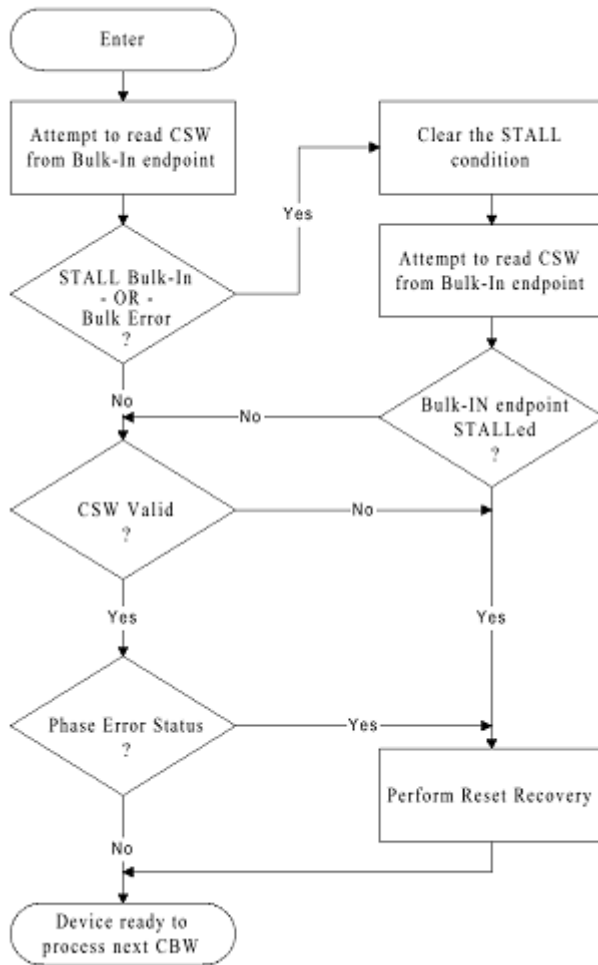

Figure 4-2: Status transport flow
The device sends each CSW to the host by using the Bulk-In endpoint. The CSW starts on a packet boundary and ends as a short packet with exactly 13 (DH) bytes transferred. Figure 4-2 defines the algorithm the host uses for any CSW transfer. The CSW indicates to the host the status of the execution of the command block from the corresponding CBW. The `dCSWDataResidue` field indicates how much of the data transferred is to be considered processed or relevant. The host ignores any data received beyond that, which is relevant.